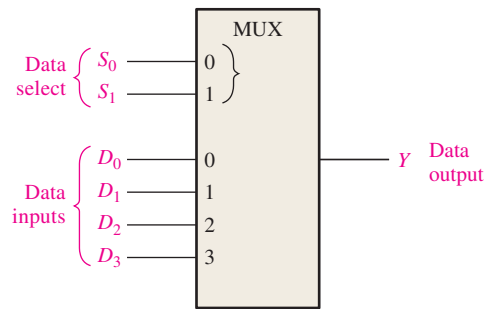

FIGURE 6-43 Logic symbol for a 1-of-4 data selector/multiplexer.
A logic symbol for a 4-input multiplexer (MUX) is shown in Figure 6-43. Notice that there are two data-select lines because with two select bits, any one of the four data-input lines can be selected.
In Figure 6-43, a 2-bit code on the data-select (S) inputs will allow the data on the selected data input to pass through to the data output. If a binary 0 ($S_1 = 0$ and $S_0 = 0$) is applied to the data-select lines, the data on input D_0 appear on the data-output line. If a binary 1 ($S_1 = 0$ and $S_0 = 1$) is applied to the data-select lines, the data on input D_1 appear on the data output. If a binary 2 ($S_1 = 1$ and $S_0 = 0$) is applied, the data on D_2 appear on the output. If a binary 3 ($S_1 = 1$ and $S_0 = 1$) is applied, the data on D_3 are switched to the output line. A summary of this operation is given in Table 6-8.